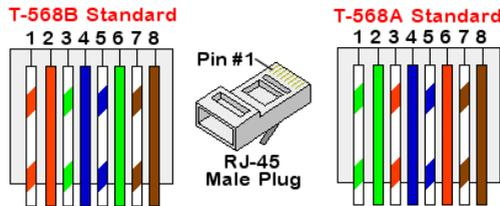

Figure 26: Standard cable wiring
- Insert the eight wires into the RJ45 connector, as described in Figure 26.
- 5 For the switch/router side, use a pre-terminated cable or use a crimper to prepare an RJ45 communication connector: Insert the eight wires into the RJ45 connector in the same order as in Figure 26.